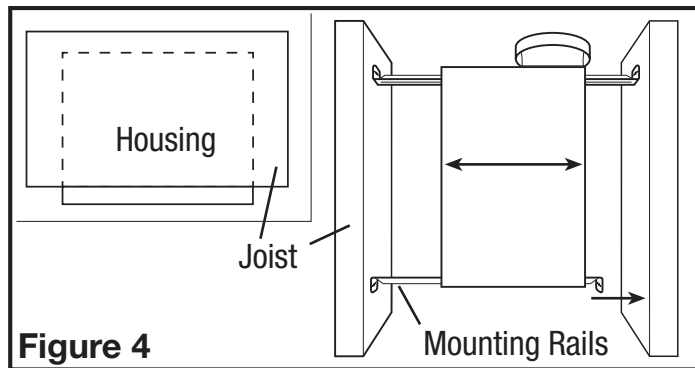
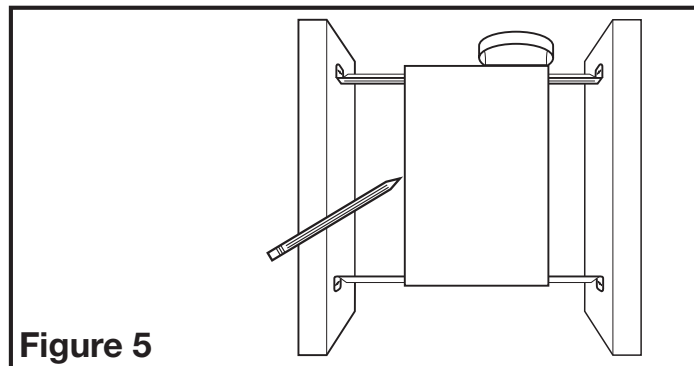

Figure 4
Figure 5
1. Install the rails on the housing and position the housing next to the joist. Line up housing so it will be flush with the finished ceiling. Secure the ends of the rails with screws or nails (not included) to the joists and slide housing into final position (Figure 4).
1. Set housing in position between the joist and trace an outline onto the ceiling material (Figure 5). Set housing aside and cut opening, being careful not to cut or damage any electrical or other hidden utilities. Install the rails on the housing and position the housing in the previously cut hole so that it is flush with the finished ceiling. Secure the ends of the rails to the joists with screws or nails (not provided) to ensure proper installation (Figure 4).